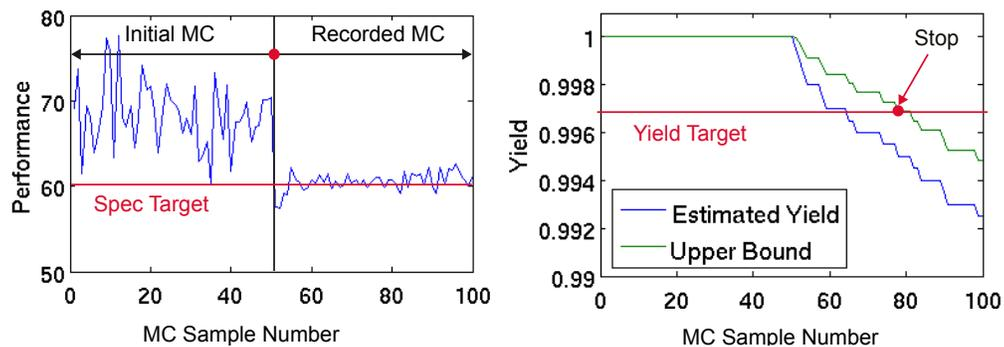
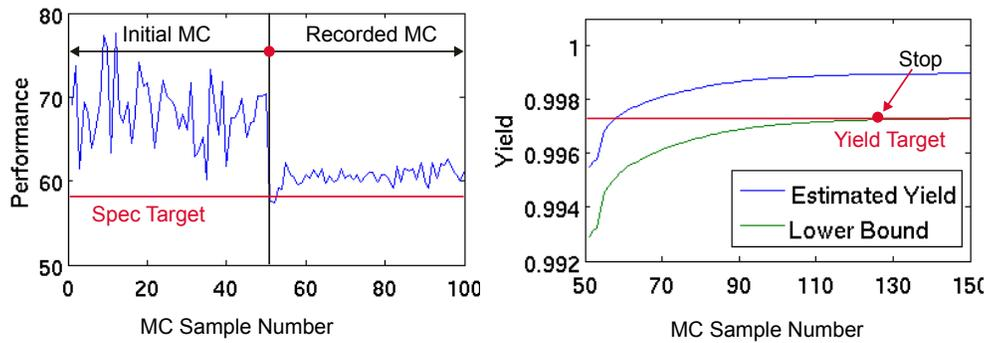

Figure 8: Stop criteria example for yield lower than target
Figure 9: Stop criteria example for yield higher than target
The Monte Carlo sampling stops when either of the two conclusions can be confidently drawn: (1) yield is lower than target (Figure 8) or (2) yield is higher than target (Figure 9). To conclude that yield is lower than target, an upper bound in yield is generated from the Clopper-Pearson confidence interval by assuming all unsimulated samples will pass. When more failed samples are observed, the upper bound will decrease and the Monte Carlo run will stop when the upper bound is lower than the yield target. This method is much faster than standard Monte Carlo sampling because the failed samples will be simulated first, so that the conclusion is reached sooner.